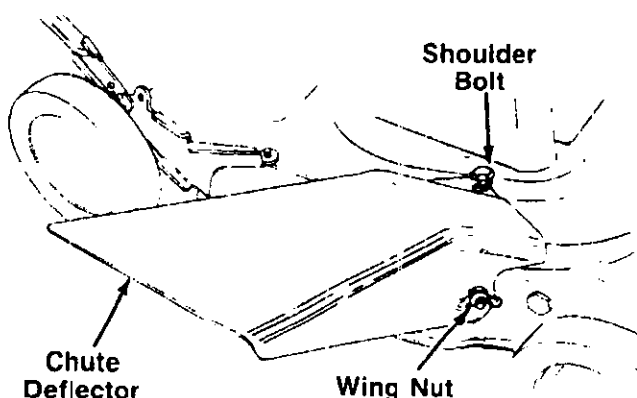
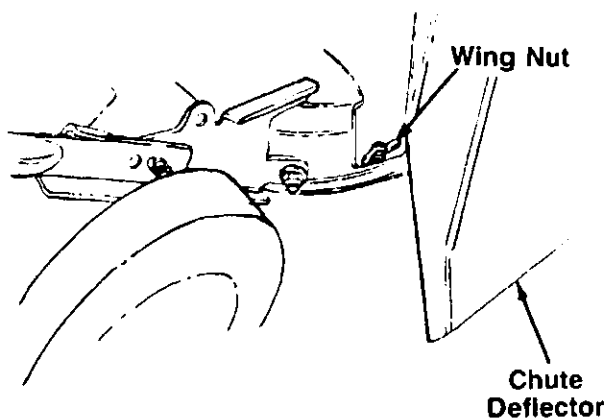

FIGURE 12.
FIGURE 13.
1. Attach the side chute deflector by first placing it over the rear bolt in the side of the deck. Then slide the notch in the top of the deflector around the shoulder bolt on top of the deck. Slide the notch in the side of the deflector around the front bolt in the side of the deck. See figure 12.
- Secure the front of the chute deflector to the bolt on the side of the deck with one wing nut. See figure 12. Secure the back of the chute deflector in the same manner. See figure 13.